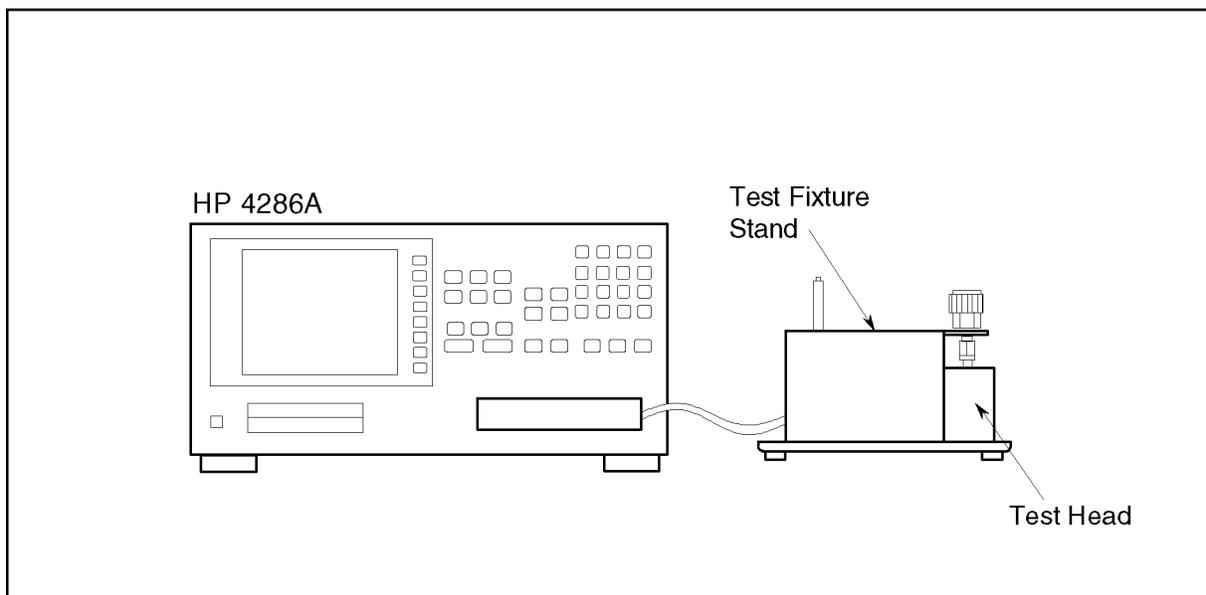

Figure 4-3. Test Head Diagnostic Test Setup
- b. Connect the test head to the mainframe, and connect the APC3.5(m)-APC7 adapter to the test head using the test fixture stand as shown in Figure 4-3.